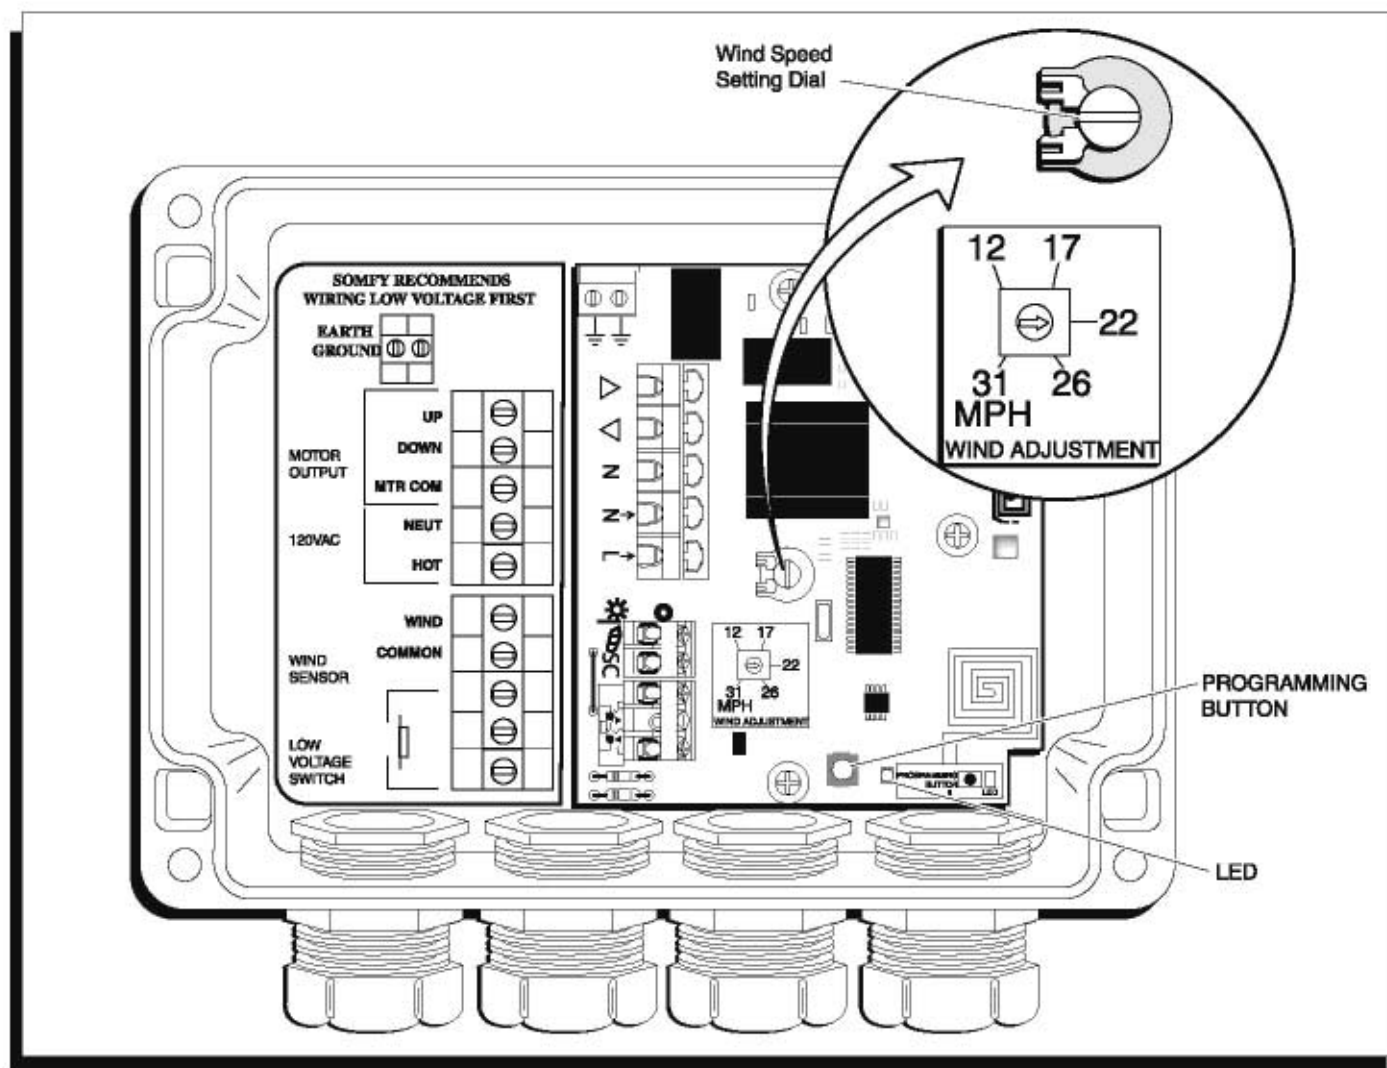

FIGURE 33
2. While cover is off control box, take specific note of wind speed setting (Fig. 33 callout, "Wind Adjustment"). The arrow should be pointing at the 3:00 position (factory pre-set at 22 mph). To adjust the pre-set wind speed, rotate the dial to the preferred setting. The minimum setting is 12 mph; maximum setting is 31 mph. GIRARD SYSTEMS STRONGLY RECOMMENDS NOT SETTING THE DIAL OVER 26 MPH. DISREGARDING THIS WARNING MAY VOID WARRANTY.